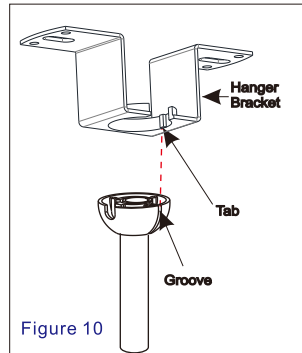

Figure 10
10. Carefully lift the fan, and set the downrod / hanger ball assembly on the hanger bracket attached to the ceiling joist. Be sure the groove in the ball is properly aligned with the tab on the hanger bracket. (Figure 10)